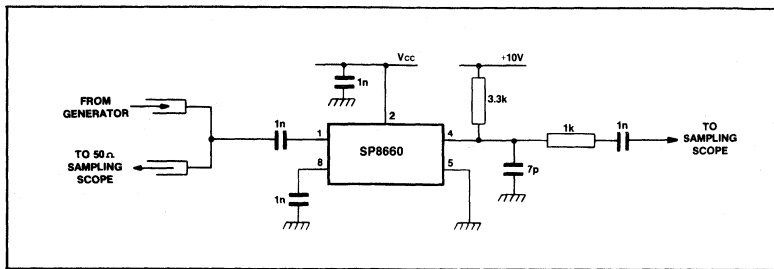

Fig.5 Test circuit
2. The dynamic test circuit is shown in Fig.5
6. The rise time of the open collector output waveform is directly proportional to the load capacitance and load resistor value. Therefore the load capacitance should be minimised and the load resistor kept to a minimum compatible with system power requirements. In the test configuration of Fig. 5, the output rise time is approximately 20ns and fall time is 10ns typically.